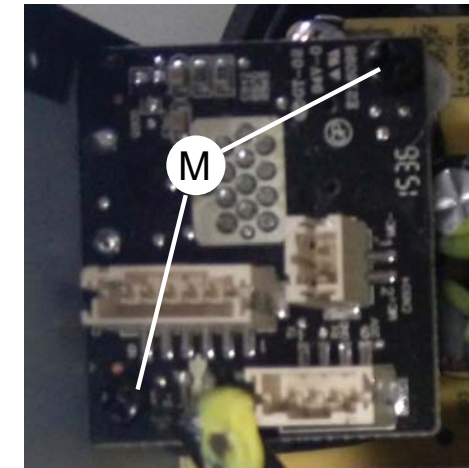

Figure 14
- 1) Loosen 2 screws "M" on the DIN JACK Board as shown in figure 14.